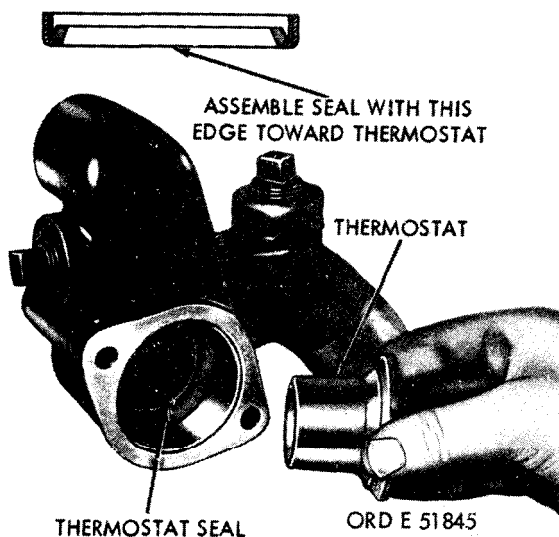

Figure 2-138. Removing thermostat and seal—multifuel models.
- (8) Inspect the thermostat seal. When defects are noted, replace the seal (fig. 2-138).
- (1) Check to see if the seal is in position (fig. 2-138) before installing the thermostat in the housing.